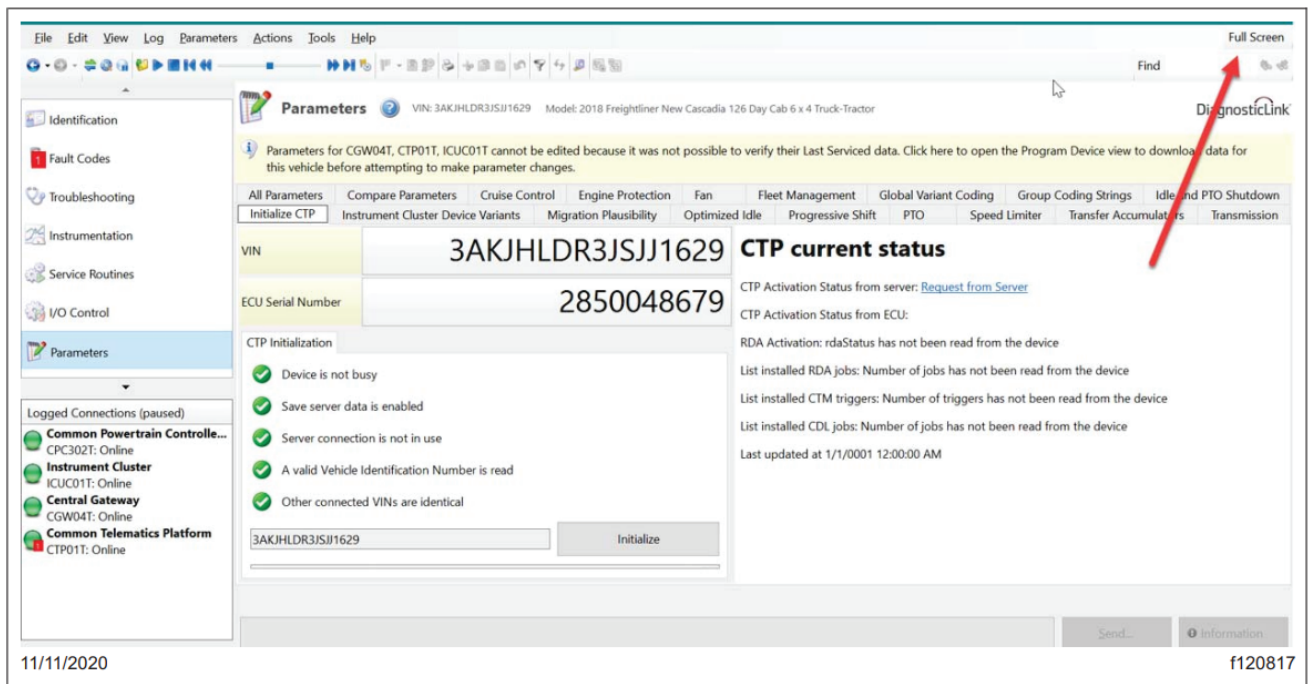

Figure 9 CTP Activation Status
28. With the initialize CTP panel still open, click the full screen button located on the top right side of the DiagnosticLink window. See Figure 9.